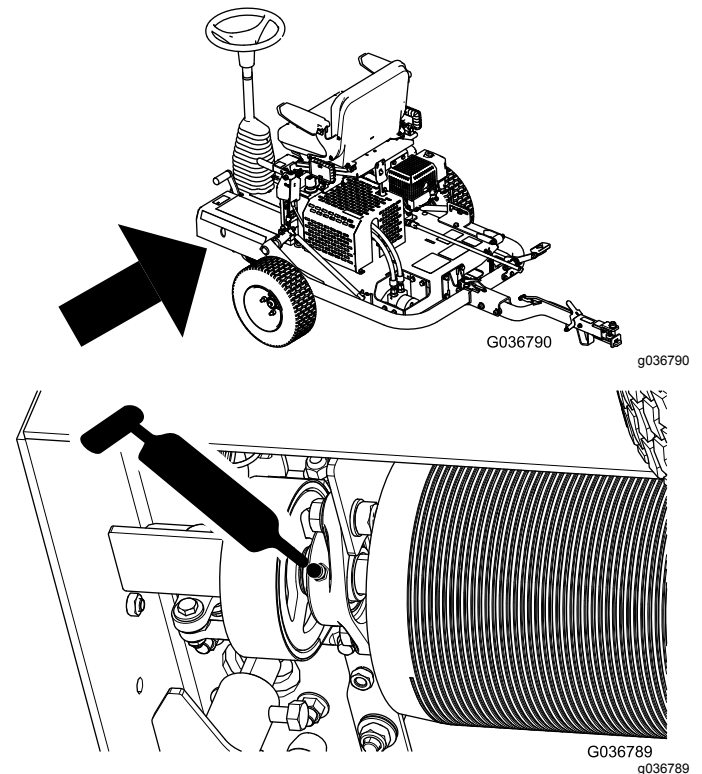

Figure 30
2. Pump grease into the grease fitting as shown in Figure 30.